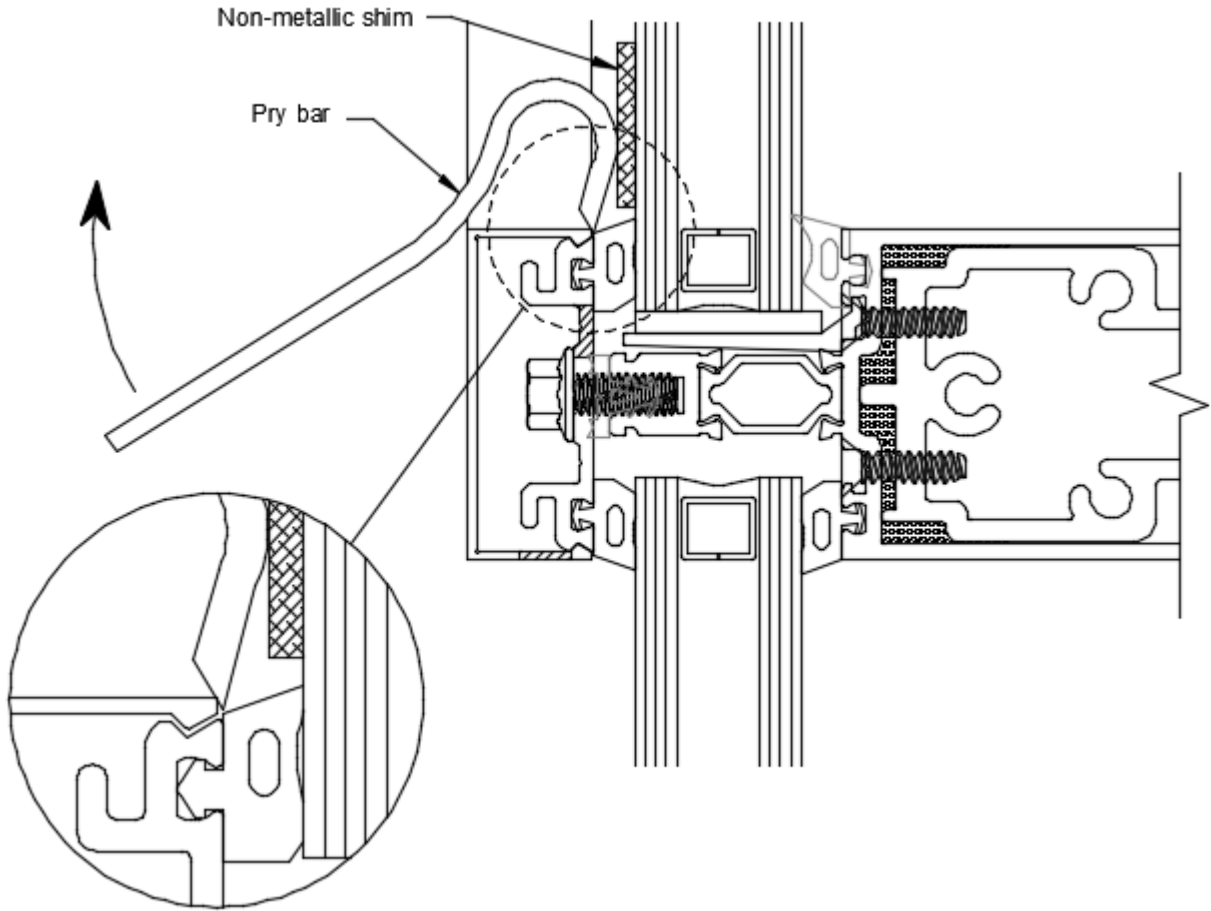

Figure 72: Deglazing
- 25.1 Reglazing must be done from the exterior. Carefully remove Face Covers surrounding the lite of glass to be deglazed. See *Figure 72*.